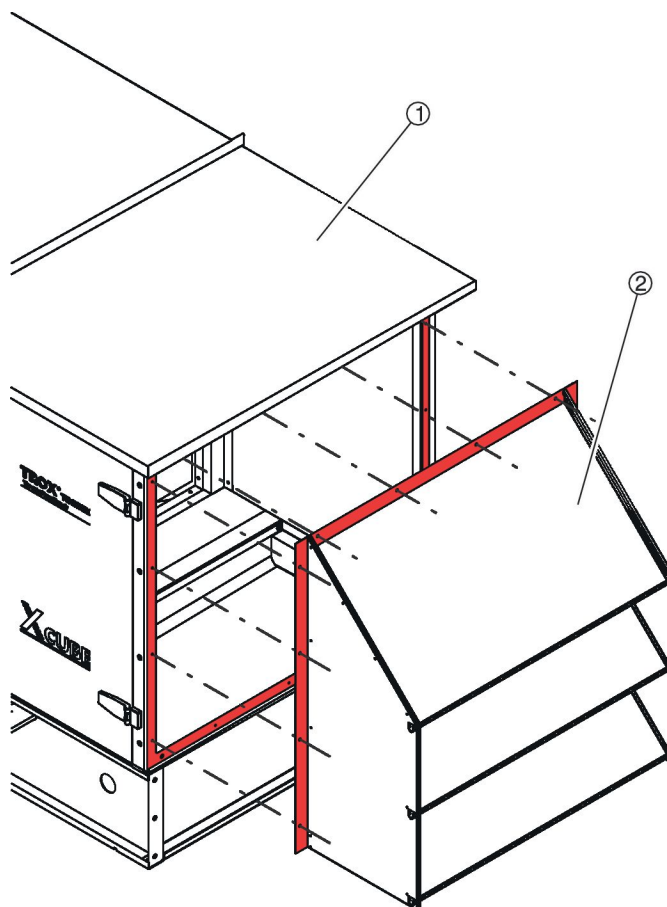

Fig. 24: Positioning the weather hood
1. ▶ Position the weather hood ( Fig. 24 /2) precisely on the frame ( Fig. 24 /1) such that the screw holes are in a line.